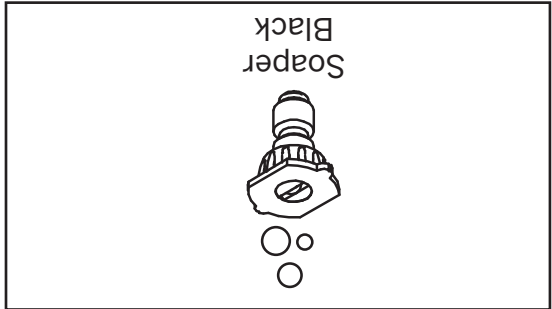

Figure 10
1. Remove the high pressure nozzle at the wand outlet and replace it by the black soap nozzle (figure 10).